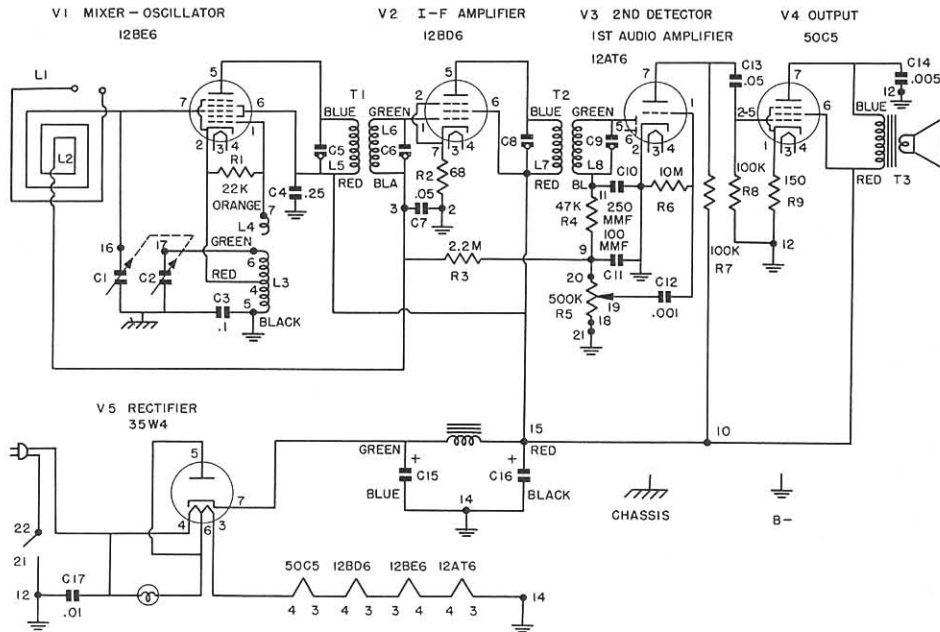

FIG. 3. Schematic diagram of a typical ac-dc radio receiver.
The schematic diagram of a typical ac-dc receiver is shown in Fig. 3. The correct procedure for measuring the voltages in the 50C5 tube stage is outlined below:
(1) Remove the receiver power cord plug from the power outlet.
(2) Connect the ground lead of the vtvm to the set side of the On-Off switch. This is switch terminal 21 that connects to terminal 12 and B-.
(3) Turn the Function Switch to +DC and the Range Switch to the 300V position.
(4) Plug the receiver into a power line outlet, turn the set on, and allow about thirty seconds for the tubes to reach operating temperature.
(5) To measure the plate voltage on the 50C5 tube socket, refer to Fig. 3. You will see that the plate is pin 7. Holding the probe by the insulated handle, touch the probe tip to socket pin 7. The meter will indicate the amount of voltage on the plate.
sets, you can find the bias voltage by measuring the voltage across the cathode resistor. If you were servicing the receiver shown in Fig. 3, you would leave the ground lead connected to B-, and touch the probe to pin 1 of the 50C5 tube socket. Since this voltage will be considerably less than the screen voltage, you will have to change the Range Switch setting.
Switch the Function Switch to the -DC position and measure the avc voltage. You can measure the avc voltage at terminal 3 in Fig. 3. Since this voltage will be a small negative value, switch the Range Switch to a low range. You will have to tune in a station on the receiver to get an appreciable reading. Notice that you can get maximum avc voltage when the set is tuned exactly to the station. Also notice that strong stations produce more avc voltage than weak stations.
To measure ac power supply and filament voltages, you connect the meter test leads directly across the line cord leads, or between the filament pins of each tube socket. For example, you would measure between pins 3 and 4 of any of the tubes in the set shown in Fig. 3. Hold the clip by the insulated handle, and touch it to one of the tube socket pins connected to the tube filament. Then, touch the probe to the other tube socket pin. Be sure the Range Switch is on the proper setting.
Let us see how to check one section of the 20-20 mfd electrolytic capacitor in the filter circuit in Fig. 3.